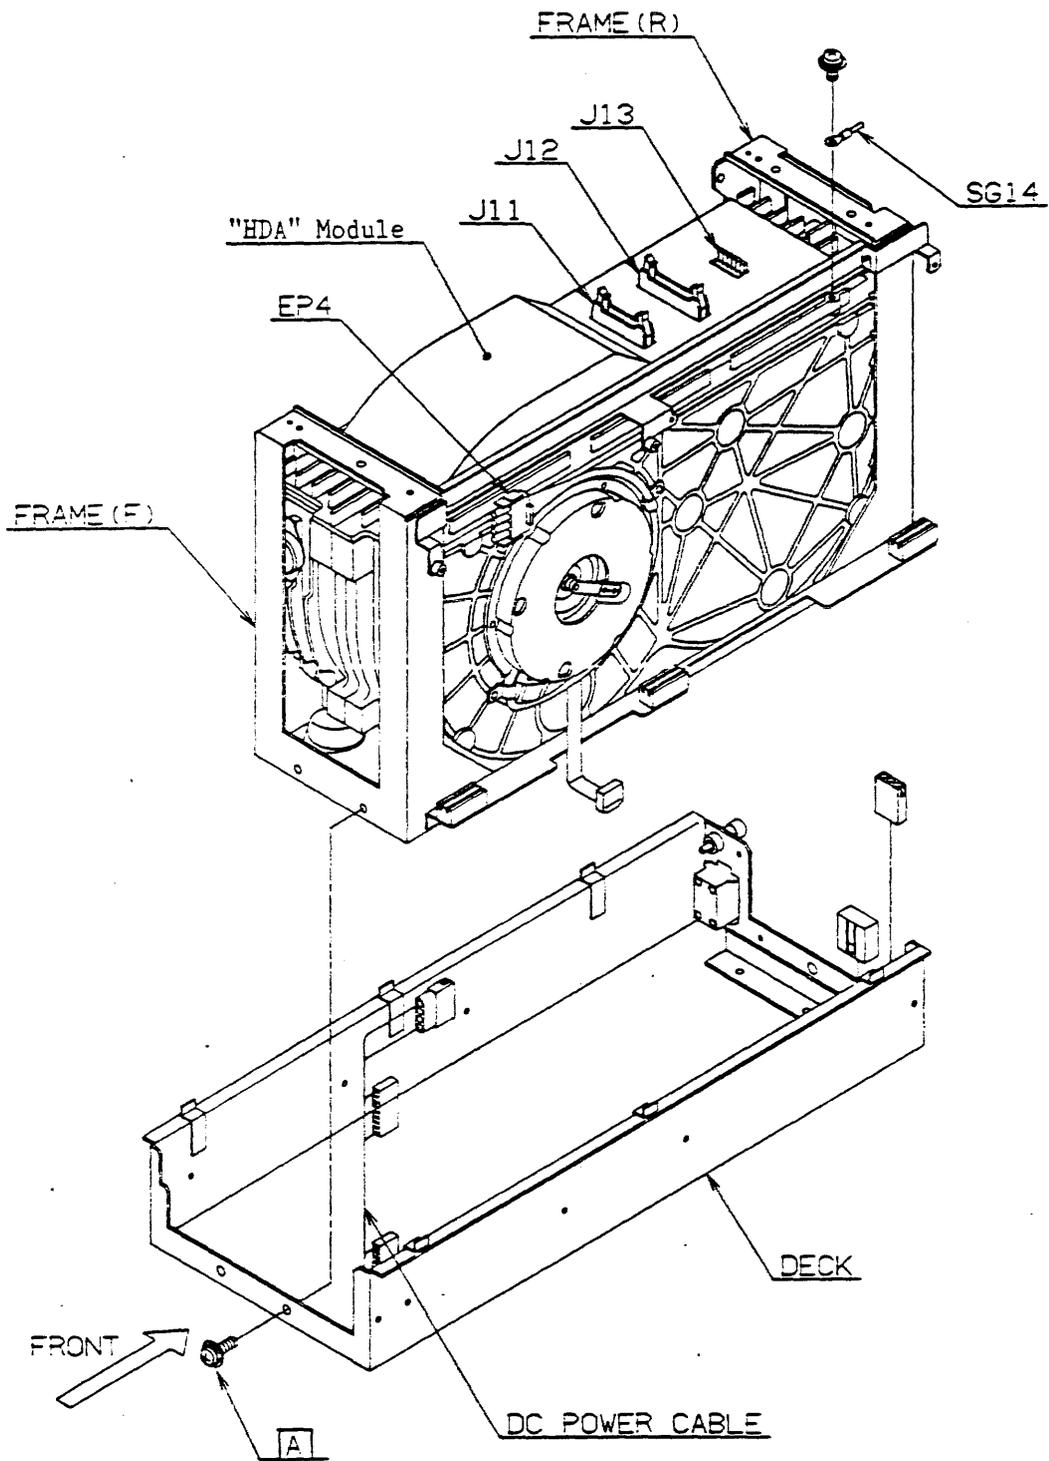

Figure 4-12 "HDA" Module Removal and Replacement (1/2)
- (1) Install the new "DUAL-PORT" PWA by reversing the above steps.
- (2) Perform Top Cover Replacement Procedure (Section 4.2.2).
4.11 "HDA" MODULE REMOVAL AND REPLACEMENT - SEE FIGURE 4-12, FIGURE 4-13
- (1) Perform Top Cover Removal Procedure (Section 4.2.1).
- (2) Perform Front Panel Removal Procedure (Section 4.3.1).
- (3) Perform Protect Cover Removal Procedure (Section 4.4.1)
- (4) Perform Power Supply Removal Procedure (Section 4.5.1).
- (5) Perform Rear Panel Removal Procedure (Section 4.6.1.).
- (6) Perform "LOGIC & SERVO" PWA Removal Procedure (Section 4.7.1.).
- (7) Perform "POWER AMP" PWA Removal Procedure (Section 4.8.1.).
- (8) Perform "ENDEC & R/W" PWA Removal Procedure (Section 4.9.1).
- (9) Disconnect the dc power cable connector EJ4 from EP4. (See Figure 4-12)
- (10) Remove the two screws **A** securing the frame (F) to the deck.
- (11) Remove the screws securing the grounding cables to the "HDA" module at SG11, SG12, SG13 and SG14.
- (12) Remove the two screws **B** securing the bracket to the deck.
- (13) Lift "HDA" module assembly from the deck.